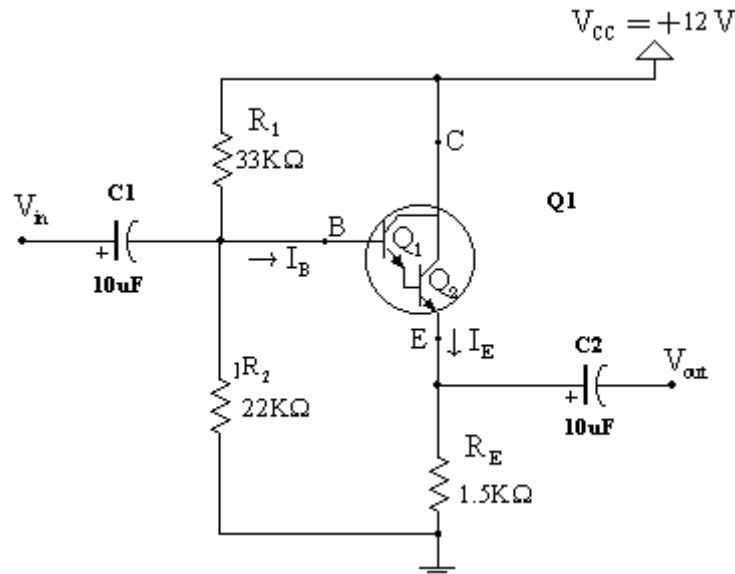

Fig.2: Darlington Emitter-Follower Circuit
1. For the circuit of Figure 2, calculate the DC bias voltages and currents.
3. Construct the Darlington circuit of Figure 2. Using a DMM, measure and record the DC bias voltages.
8. Calculate the input and output impedance of the Darlington Pair of Figure 2.